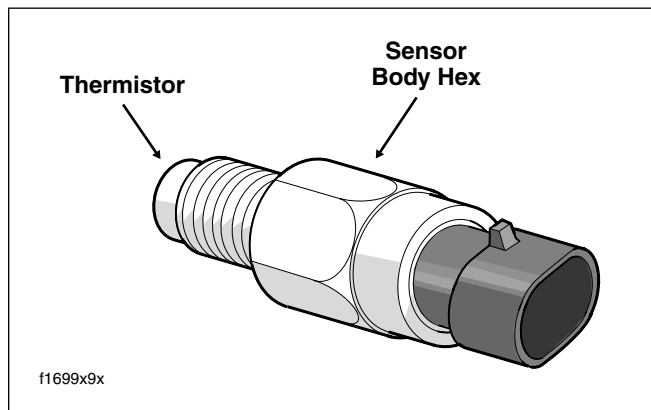

Figure 9-8. ET Sensor
3. Slide a 3/4 inch deepwell socket over the sensor body hex and turn counter-clockwise to loosen. See Figure 9-8. When sensor turns easily, pull out the deepwell socket and remove sensor by hand.